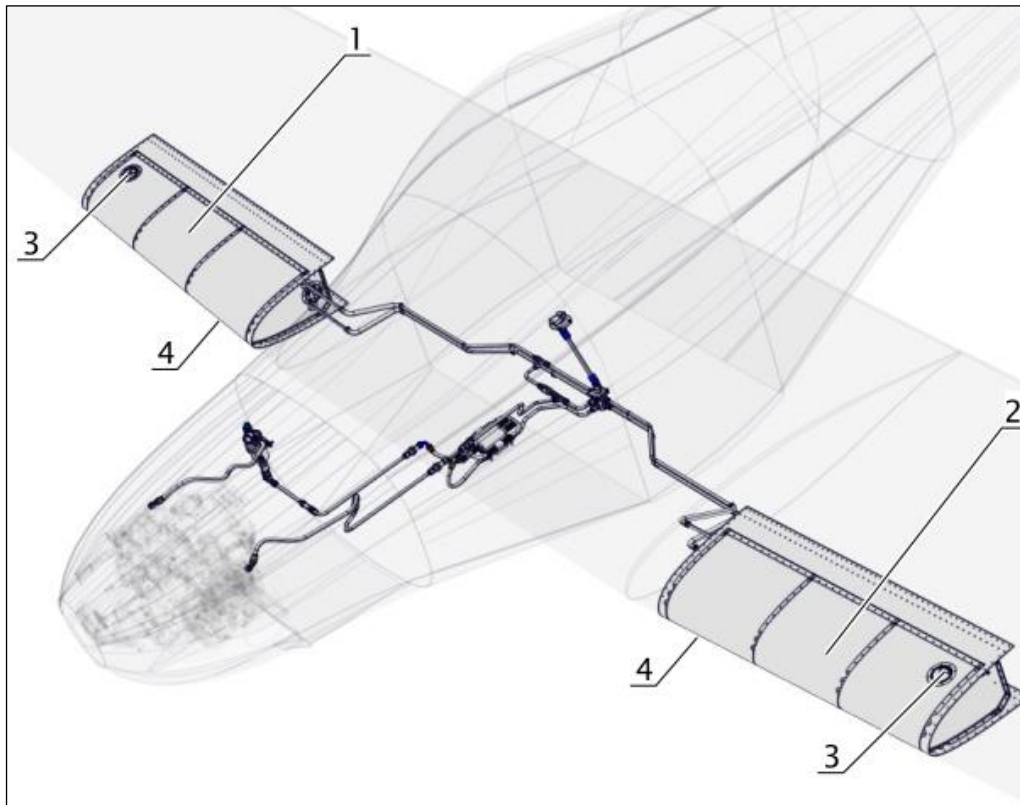
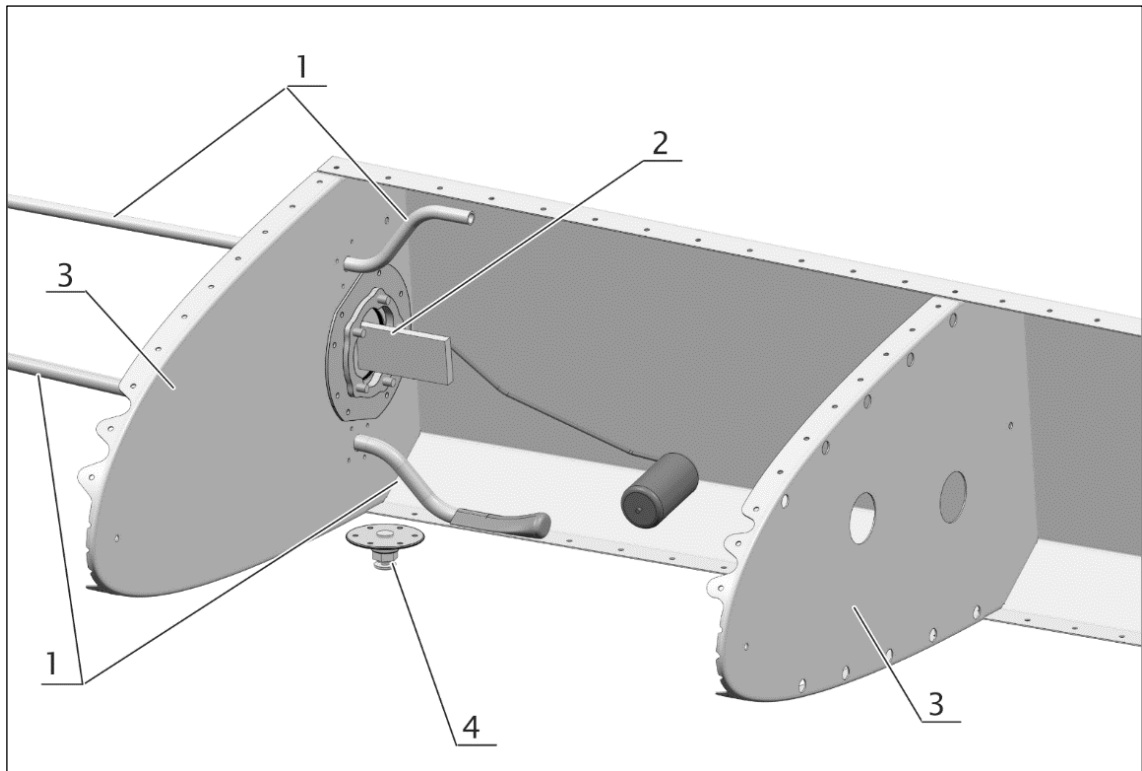

Figure 2 **Storage**
Figure 3 **Fuel Tank (left)**
The tanks (1 + 2, Figure 2) are located in the outer wings between ribs No.2 and 5 in front of the main spar. Each fuel tank has a filler neck with flush head filler cap (3), fuel level sender (2, Figure 3), venting tube, finger screen (1, Figure 3) and drain valve (4). Fuel is filled into the each tank through the filler neck, which is located on the top skin close to rib No.5. Fuel drain from the tank is possible through the drain valve (4) located in the rear corner of bottom skin close to the root fuel tank rib.